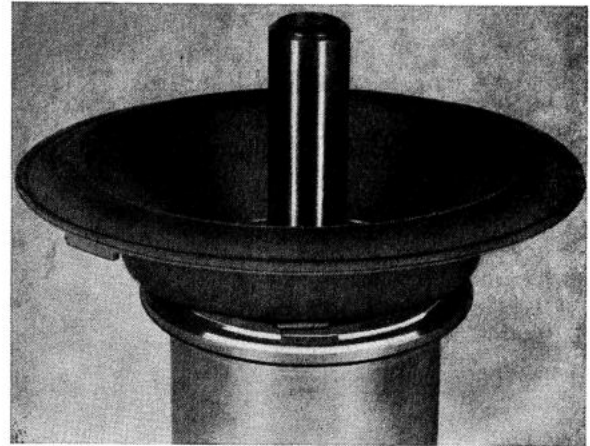

Fig. 2-83. Diaphragm in air valve
3. Fit the new diaphragm, see Fig. 2-83. The rubber register should fit into the valve groove.
The needle should be inserted so far that the plastic washer lies flush with the valve, see Fig. 2-83. Tighten the lock screw.